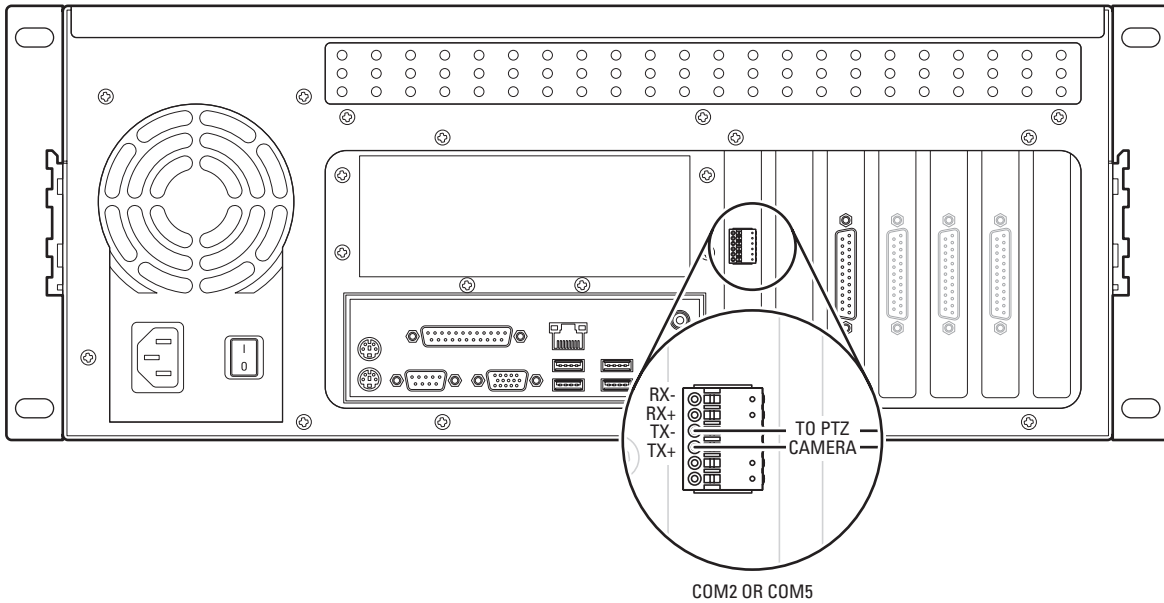
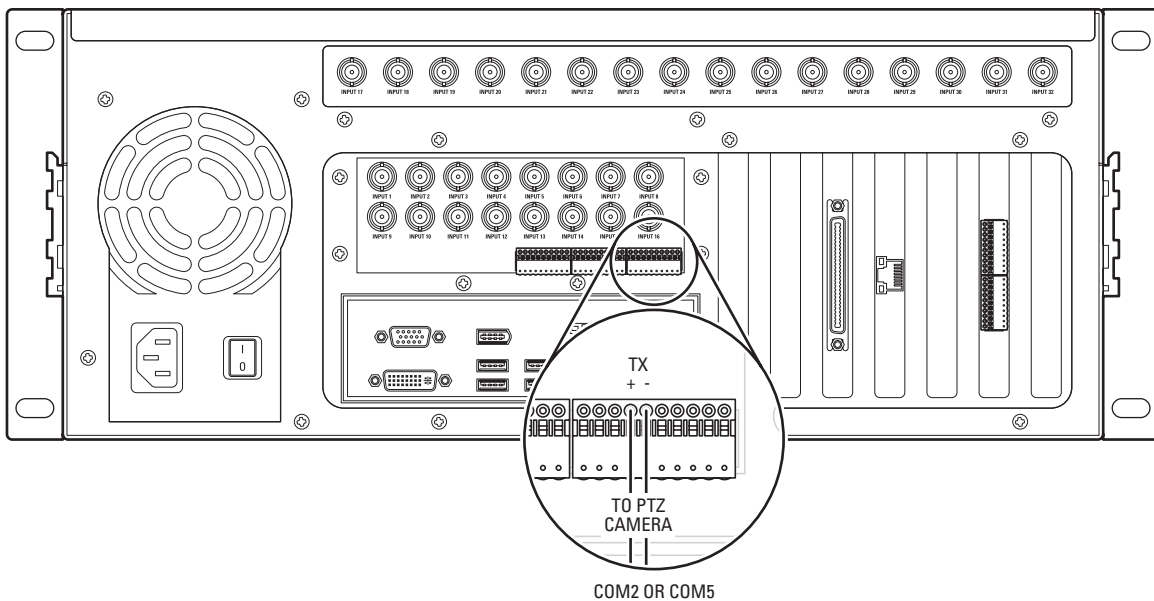

Figure 32. DS Enterprise SAVR/DS XPress/VAU PTZ Connections
Figure 33. DS 1000/RealVue PTZ Connections
- COM1 is used directly with cameras that require RS-232 communication. COM1 can also be used with cameras that require RS-422 or RS-485 communications when used with an external converter. Refer to Figure 32 and Figure 33 to locate COM1.
- COM5 can be used only with cameras that require RS-422 communication. Only the TX+ and TX- pins on connector are used to wire the PTZ camera. The location of this connector varies among DS models. Refer to Figure 32 and Figure 33 to locate COM5.